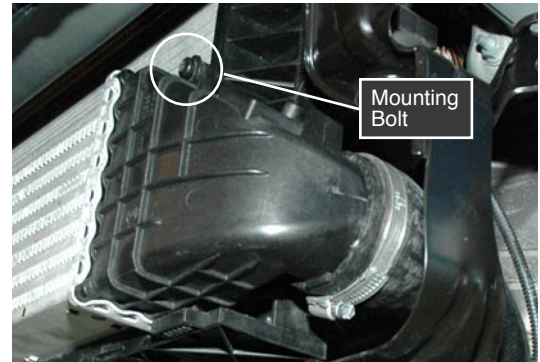

Figure 3.3
- Locate the intercooler outlet hose. This hose is located on the right side (viewed from front of vehicle) of the intercooler (see Fig. 3.3).
- Locate and remove the two (2) T30 Torx fasteners securing the intercooler to the radiator assembly, one fastener per left and right side (see Fig. 3.3).